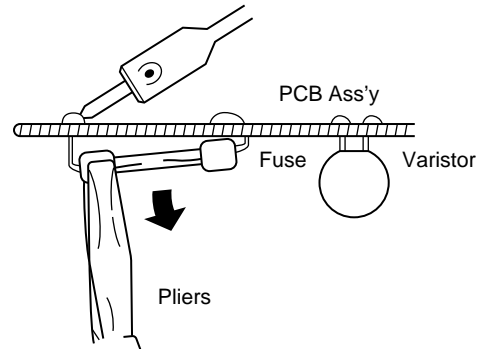

Fig. 23
2. Remove the fuse from PCB Ass'y using pliers while heating the soldered leads on the back side of the PCB Ass'y with a soldering iron (30W or 60W). (Fig. 23)